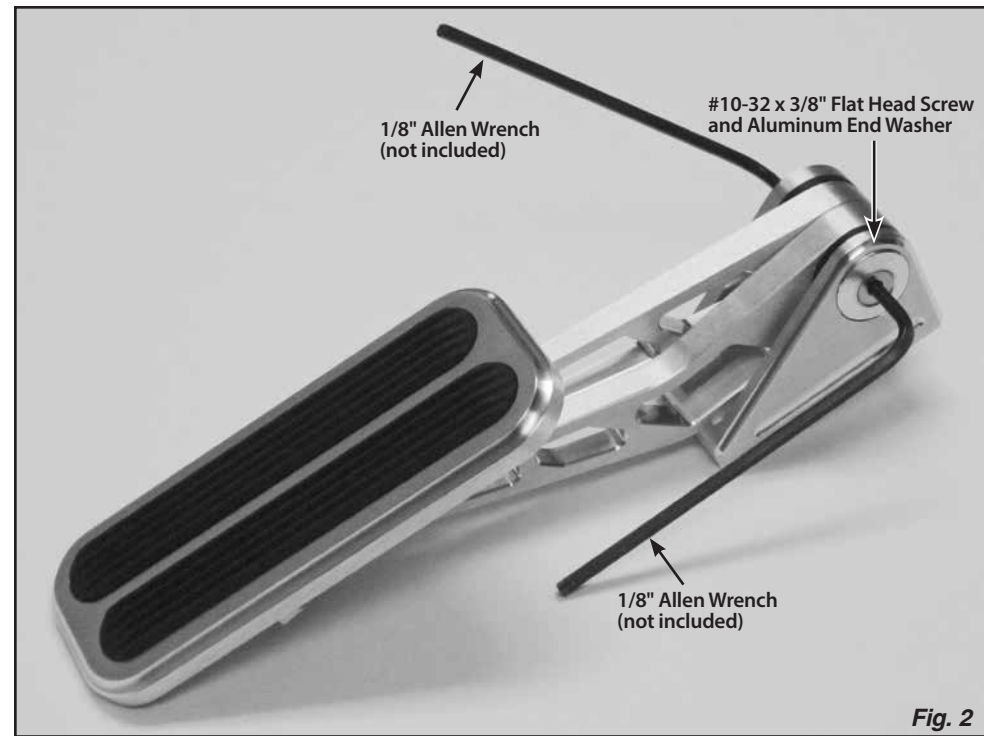

Fig. 2
Step 3: Disassemble the throttle pedal assembly by removing the #10-32 x 3/8" flat head screw and aluminum end washer from either end of the pedal axle. You will need two 1/8" Allen wrenches (not included). One will be used to keep the pedal axle from spinning while you use the second one to remove the screw from the opposite end. **Fig. 2** Pull the pedal axle out of the pedal cradle.